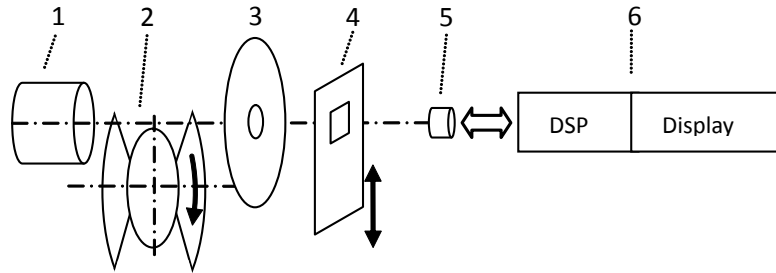
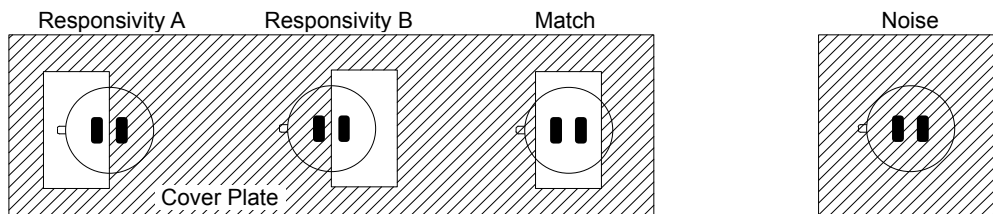

Figure 2: Test setup for the measurement of Responsivity and Match.
Figure 3: Masking of elements to test the electrical parameters.
The typical test setup for the measurement of Responsivity (R), Match (M), and Noise (N) is illustrated in Figure 2. The black body radiator (1) is set to 373 K (100°C). The signal is modulated by a rotating chopper (2) with a modulation frequency of 1 Hz . An aperture (3) is used to adjust the radiation flux. The cover plate (4) is masking the elements as shown in Figure 3. The sensor (5) is interfaced to a signal processing chain (6).